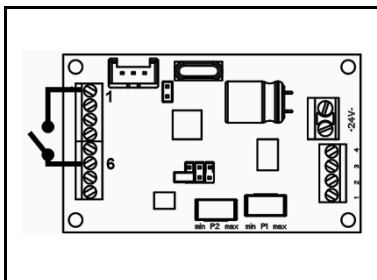

Fig. 14: Reverse
- ➔ To generate a voltage signal (10V / GND) connect a 10kΩ resistor from COM 8 to COM 7 (see fig. 14).